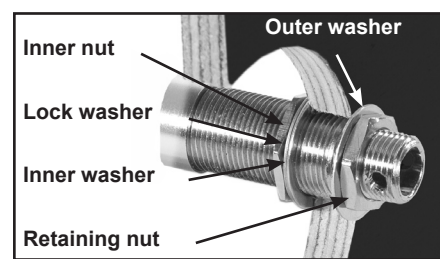

Figure 15c – Jack installation
7. Put the outer washer on the jack followed by the retaining nut (*see figure 15c*). Snug down the retaining nut finger-tight. The jack should be firmly held in place. If the jack is loose in the hole, loosen the retaining nut and adjust the inner nut so that the outer washer and retaining nut can fully seat against the surface of the harp.